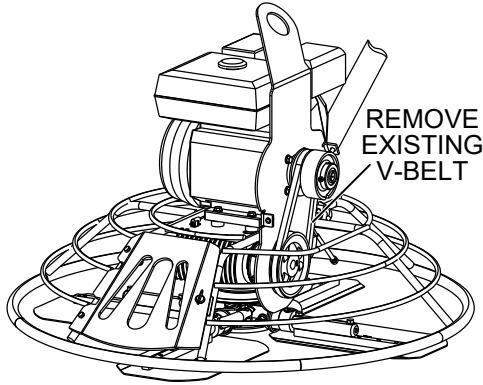

Figure 3. Remove V-Belt
- Remove the existing V-belt (Figure 3). Store the V-belt in a clean, dry location where it will not be damaged.